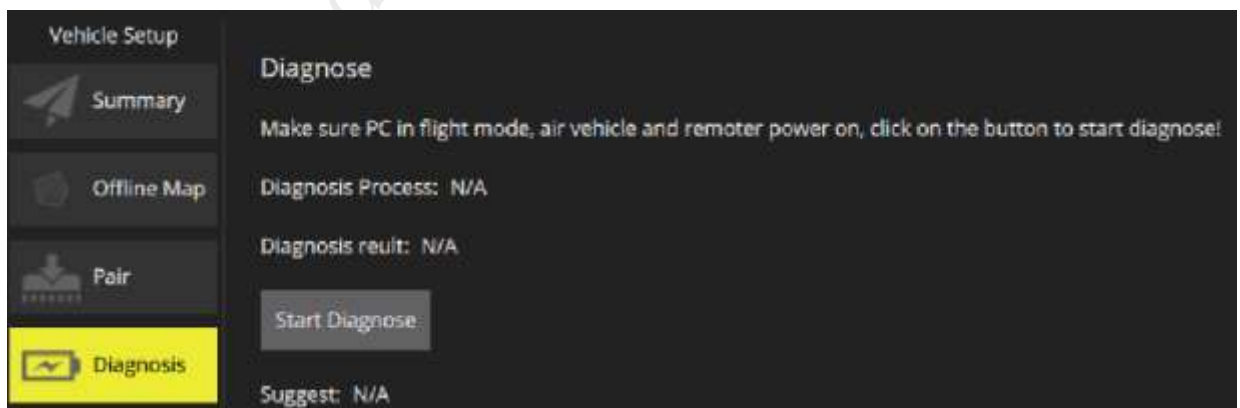

Figure 3-27
Step 1 Select "Aircraft Settings > Diagnosis" to enter diagnosis interface, as shown in Figure 3-27.